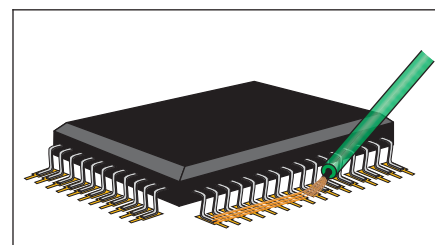

Figure 1 Flux Component
5. Apply flux to all lead/land areas. (See Figure 1.)